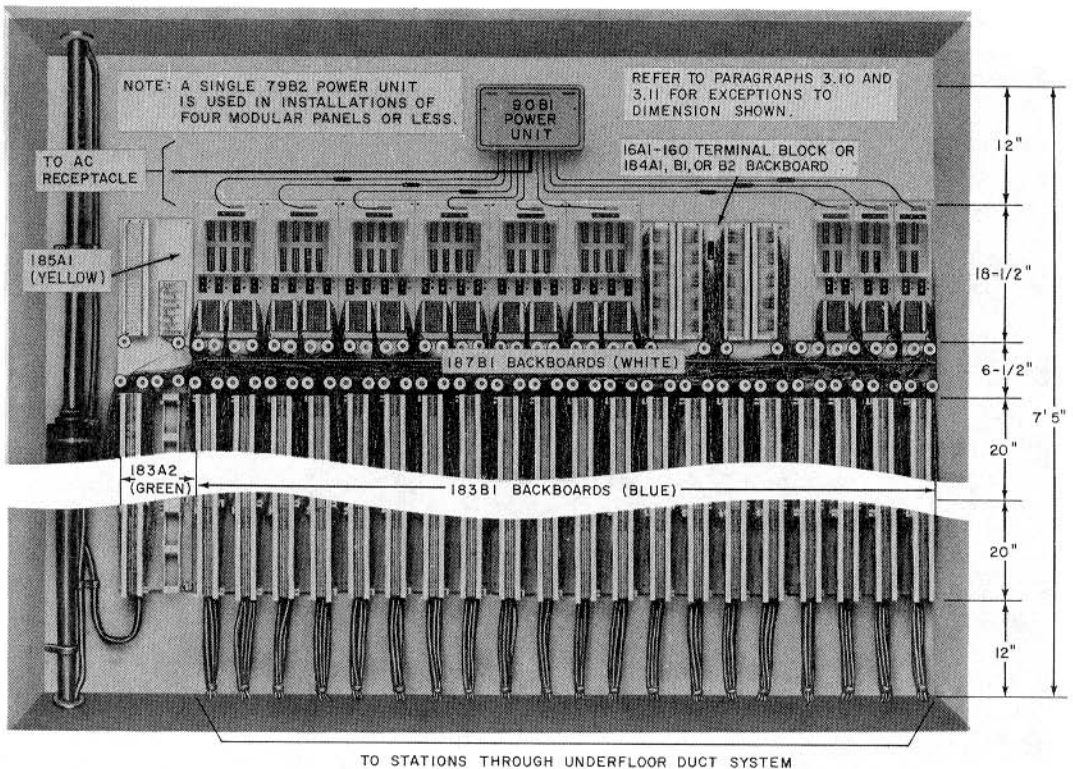

Fig. 8—Centralized Terminal Field, Typical Arrangement of Modular Apparatus
**3.09** ♦In Fig. 8, the 620A-type, 641A, and 642A panels are mixed in any order with 184-type backboards mounted in a single row directly above a WHITE and BLUE backboard field. No space between adjacent panels should be left unless stacking panels (see **Note**) or if covers and end panels are used (paragraph 3.10).♦
**3.10** A recommended sequence for mounting modular panels, backboards, and power units is as follows (Fig. 8):
provide station terminations in excess of the panel terminal capacity (Fig. 8 or 9). The 16A1-160 terminal block is the same height as the modular panels and half the width of a 620A-type panel. Two connecting blocks are provided which duplicate the designations and quadrants of a 620A-type panel. If required, the terminal blocks will accept 152A covers and 153A end caps.